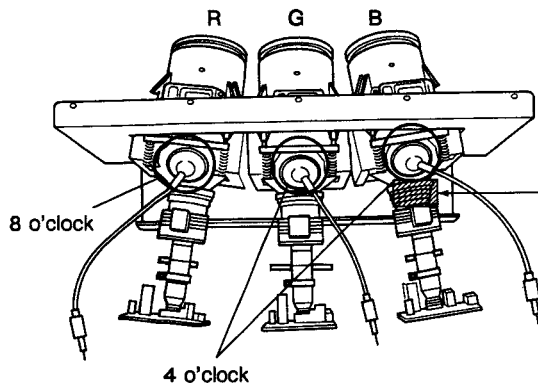

**Fig. 20**
5. Put one screw on cabinet by depth of their length for fixing back board, and then, temporarily use them to hold the CONV/POWER chassis with wires tied to screws or insert the PVC band into the opening of main board frame to fix the main board chassis as shown in the figure 20. (See illustration on next page.)